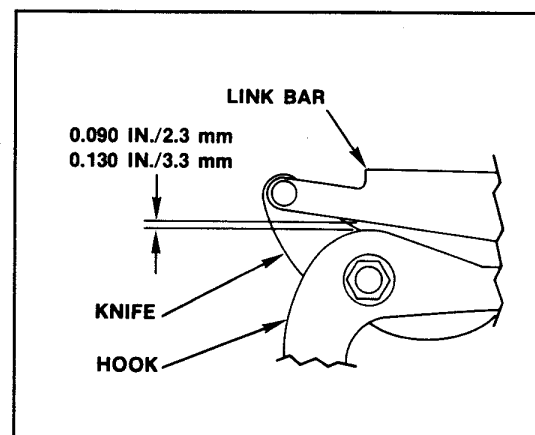

Figure 4. Link Bar Clearance Adjustment.
3. Squeeze the trigger. The edge of the knife should complete a full cut. Release the trigger. The link bar should come within 0.09 to 0.13-inch/ 2.3 to 3.3 mm of the back of the hook. See figure 4.